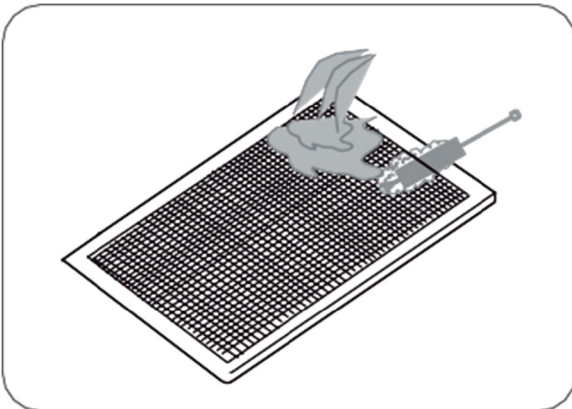

Figure 5-35
2. Shake off filter dust. Using a brush, wash it thoroughly with water. Figure 5-35. (After washing dry the filter)